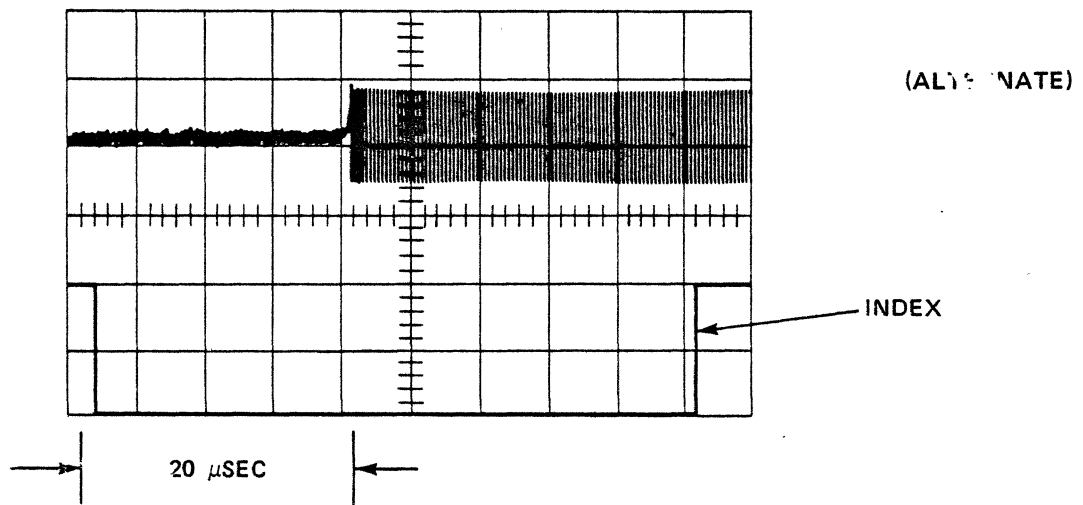

Figure 2. Circumferential Waveform
6. Adjust the sector position variable resistor (A8R²1) for a 20 ± 3 micro-second delay from the index pulse (beginning of sweep) to the start of the first data pulse. (SEE the waveform figure 2)